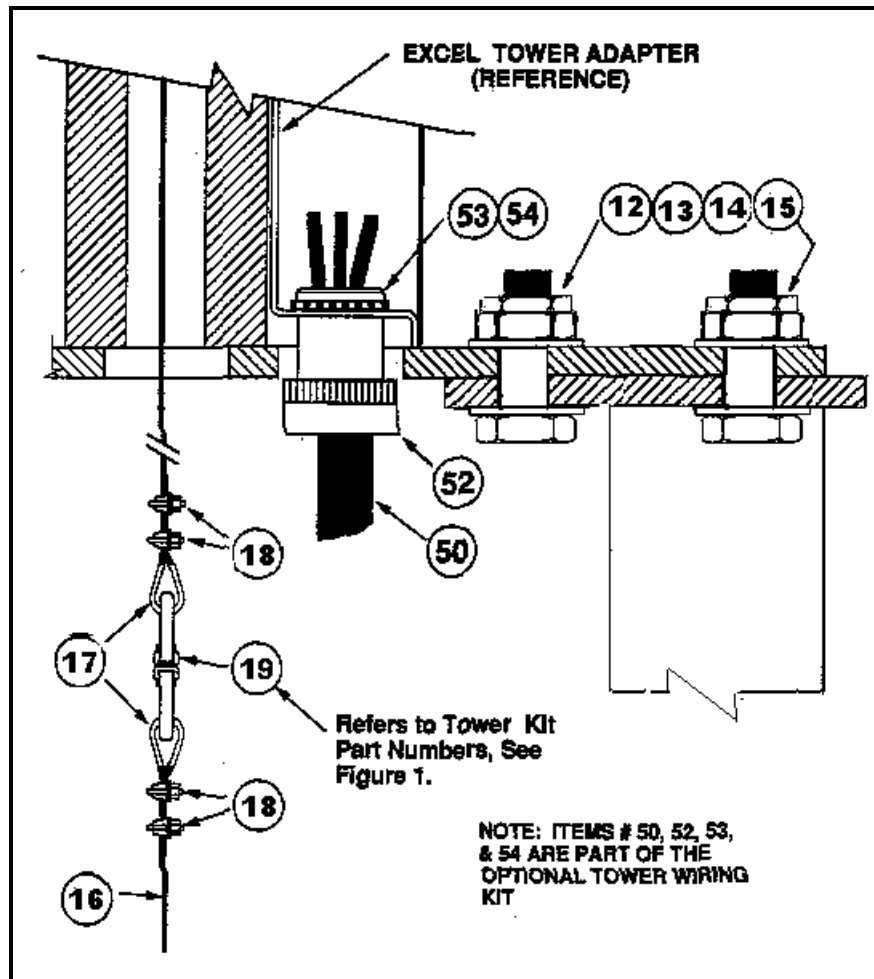

Figure 20. Tower-turbine connections diagram
- e. Perform tests for continuity, ground faults, etc. Correct any problems, then replace the terminal block cover. The system should appear as shown in **Figure 20** below.
14. Connect the 3/8" double-eye swivel and winch cable to the EXCEL turbine furling cable as shown in **Figure 20** above, using the thimbles and malleable clips found in hardware kit HK0014. Be sure the winch cable passes through the lanyard pulley. Hold tension on the cable while taking up most of the slack with the winch. Leave several feet of slack in the cable until the tail boom is connected to the turbine.